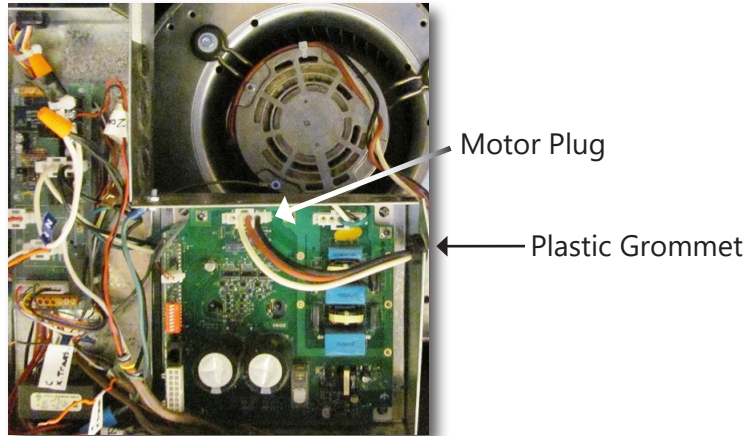

Fig. 2 - L-Shaped Box
2. Unplug motor plug from control board and remove from L-Shaped box. Plastic grommet can be removed by squeezing the sides with needle nose pliers. (Fig. 2)